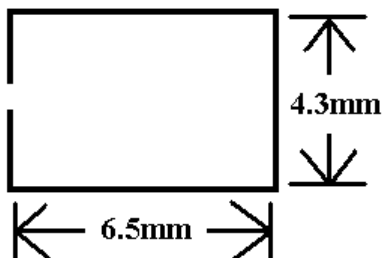

Figure 3
10. Bend a piece of phosphor bronze wire as shown in Figure 3; the dimensions are measured inside the loop. Use tapered pliers, marked at the appropriate distances to ensure each loop is the same, or use the *LBJE* loop bending jig.